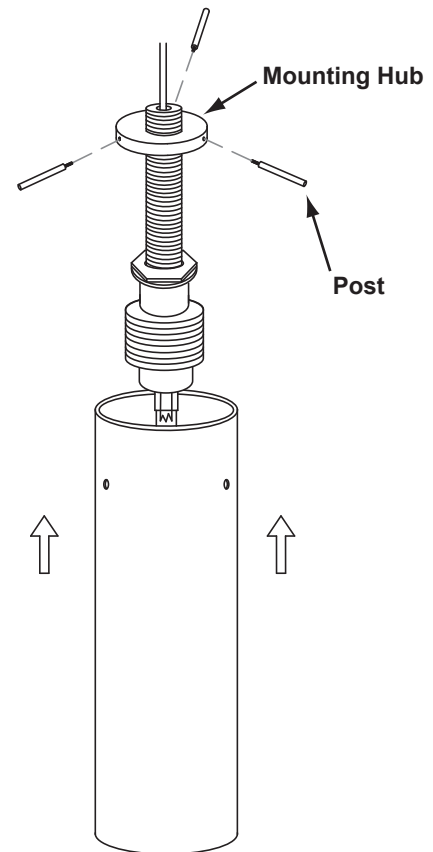

Figure 2
2. Following figure 2, the glass shade (shape may vary) will be positioned as shown. Align glass shade so that the Posts easily fit through the side holes in the glass shade and align with the holes in the Mounting Hub and then thread the Posts into the Mounting Hub holes.